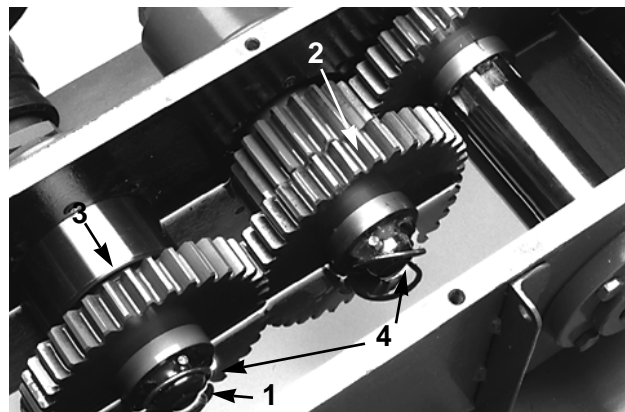

Figure 5
2. Remove the lynch pins securing the driver and driven gears and slide the gears off the shafts (Fig. 5).
3. Install the driver and driven gears matching the chart time and secure with lynch pins (Fig. 5).